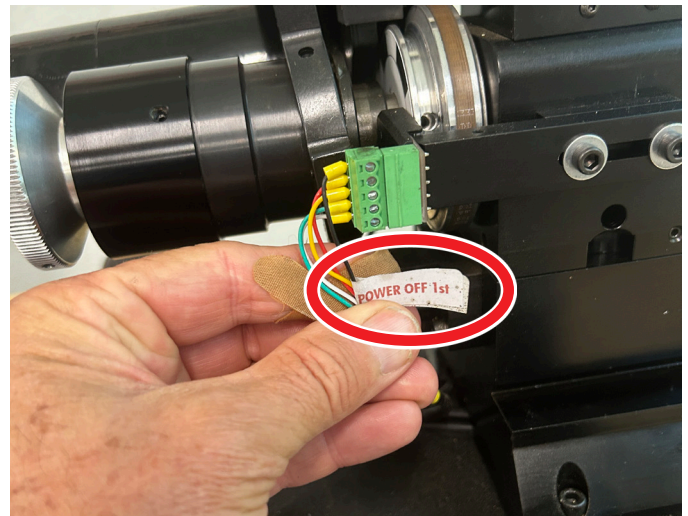

FIGURE 2—There is a tag on the encoder wires to remind you to turn the power off first before connecting or disconnecting the optical encoder.
**CAUTION:** You must connect or disconnect the green optical encoder connector with the power off, or you will damage the optical encoder! (see Figures 2 and 3).